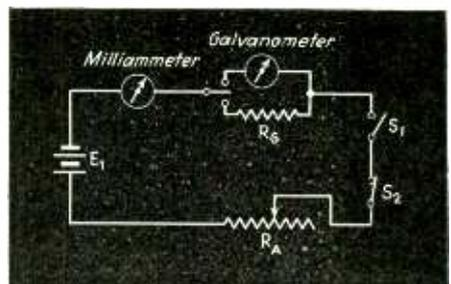

Fig. 4—Basic chronoscope circuit. Switch  $S_1$  closes at the beginning and  $S_2$  opens at the end of the timed interval
The current  $I$  can be determined by steady state measurements as follows (see Fig. 4): The switching circuits used in making the time measurements are left in the closed position. A key is used to switch a resistance  $R_g$  into the circuit equal to the resistance of the galvanometer, and a milliammeter is provided in the circuit. The current indicated by the milliammeter will be the current  $I$  which flows through the galvanometer during the time  $T$ . Hence from equations (4) and (5)
The simplest diagram for operation of the Chronoscope is shown in Fig. 4 in which switch  $S_1$  closes at the beginning and  $S_2$  opens at the end. For measuring time intervals between 0.001 and 0.1 second it is necessary to resort to electronic tubes to perform the function  $S_1$  and  $S_2$  in order to reduce the switching time and minimize this source of error.